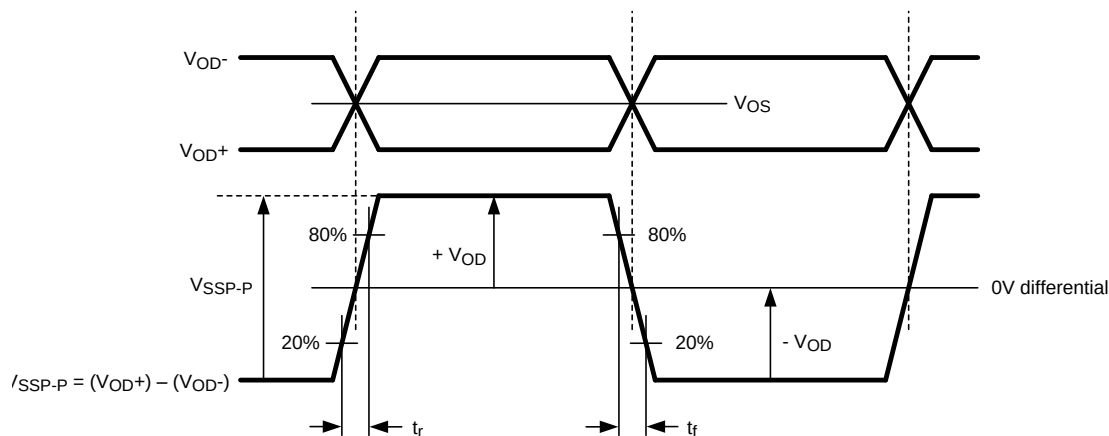

**Figure 1. LVDS Output Voltage, Offset, and Timing Parameters**
| V SSP-P Differential output voltage, P-P                                     | SDO0, $\overline{\text{SDO0}}$ , SDO1, $\overline{\text{SDO1}}$ (100-Ω load), default register settings (4) , <a href="#">Figure 1</a> | 500 | 700 | 900  | mV P-P |
| t r , t f Output rise time, fall time (SDO0, $\overline{\text{SDO0}}$ , SDO1, $\overline{\text{SDO1}}$ ) | 20% – 80%, 100-Ω load, <a href="#">Figure 1</a> (4)                     |     | 90   | 130  | ps   |